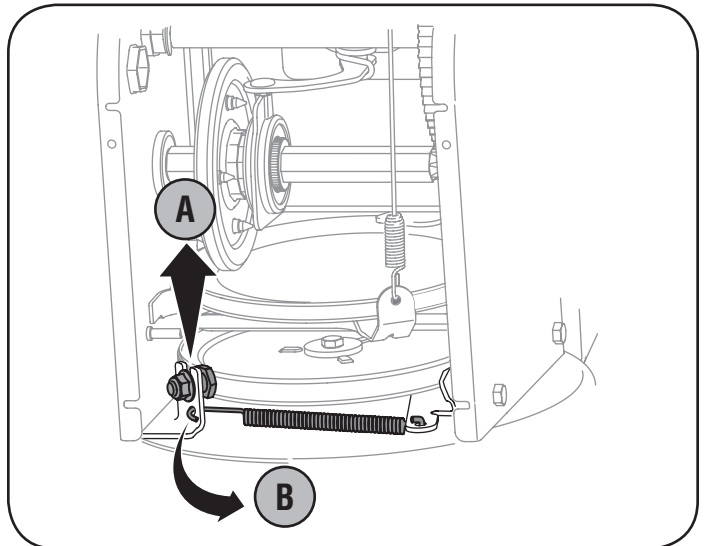

Figure 23
6. Remove the belt as follows. Refer to Figure 23.